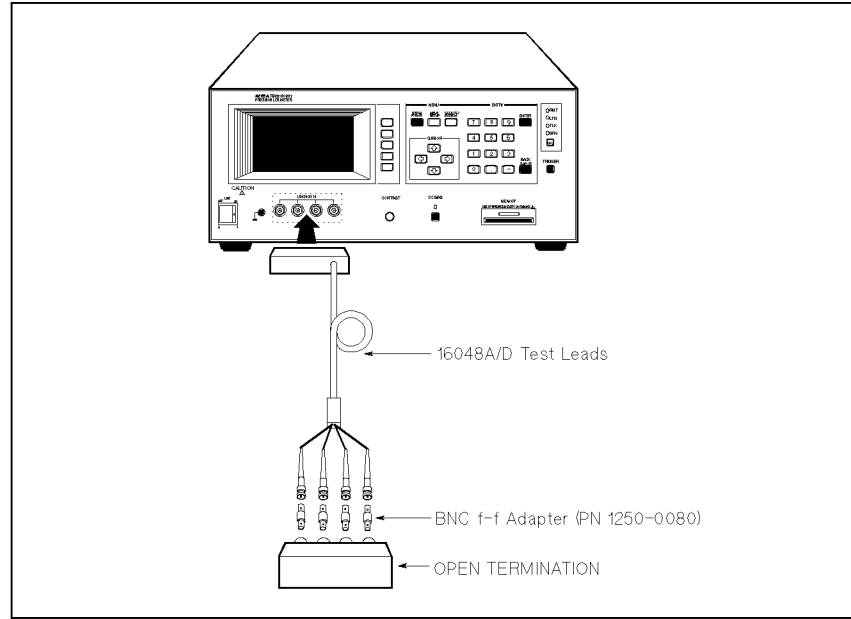

Figure 3-16. OPEN Termination Connection
7. Connect the 42090A OPEN Termination of the 42100A and the 16048A/D Test Leads with the furnished BNC female-female adapters (Agilent Part Number 1250-0080) as shown in Figure 3-16.